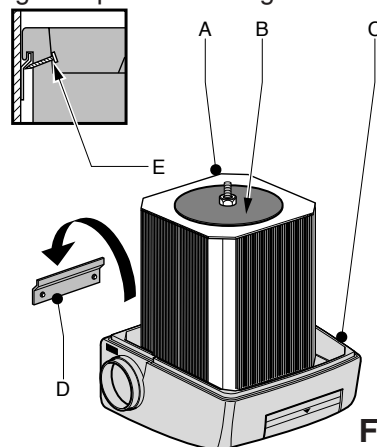

Fig. 18
Lift the Statiflex 200-M onto the mounting bracket; refer to Figure 18. The installation may be made permanent by running (2) self-tapping screws (Fig. 18E) in through the plastic base against the wall bracket.